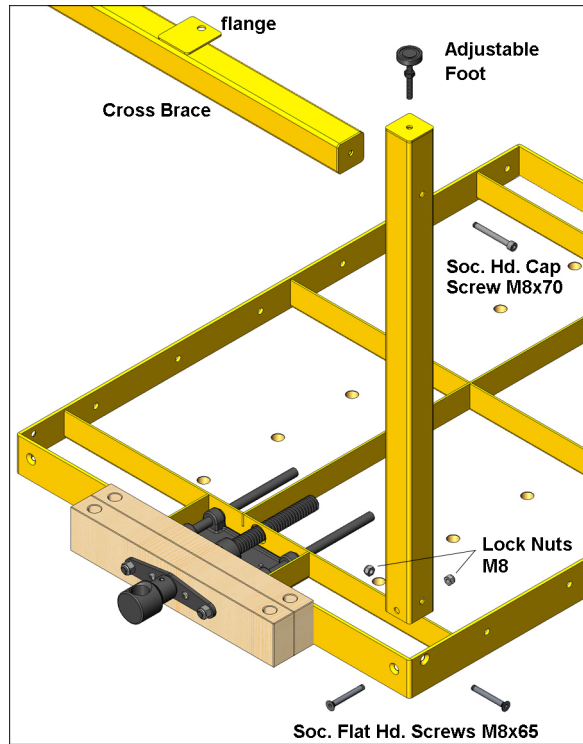

Figure 10
6. The two provided *legs* are identical. With the workbench upside down, position one leg at a corner (at the vise end of the workbench). See Figure 10. Rotate the leg until the two holes in the leg align with the holes in the steel frame, as shown in Figure 10.
9. Position the *cross brace* between the legs, aligning the holes at the ends of the cross brace with the holes in the legs. NOTE: The flange on cross brace should be oriented as shown in Figure 10.
12. Install an adjustable foot into the threaded hole at the end of each leg (Figure 10).